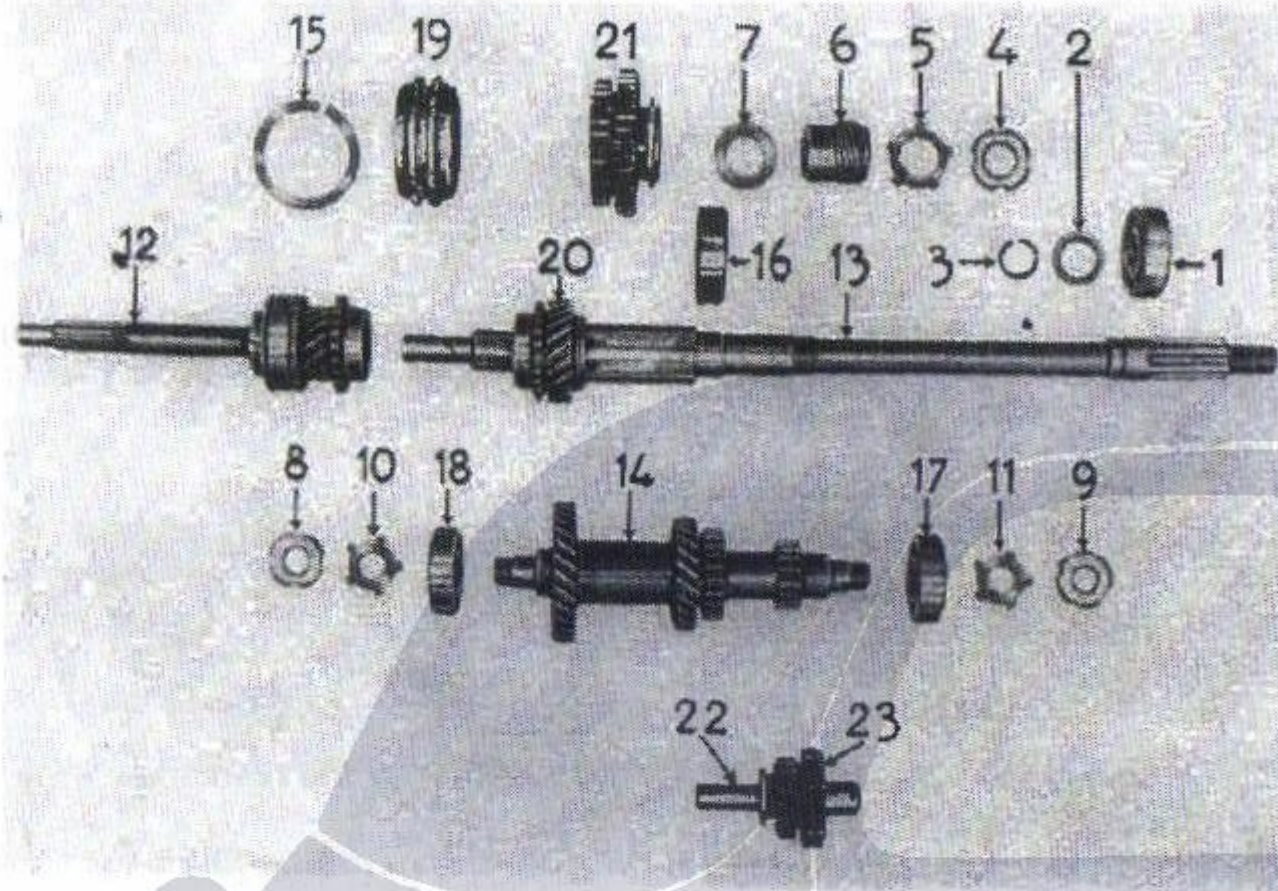

Fig. 64. - Shafts and gears in the gearbox.
Pull out the primary shaft rear ball bearing (1, Fig. 64); the washer (2) and the spring ring (3).
Unscrew by means of the wrench A. 8067 (Fig. 66) the lock rings (8 & 9, Fig. 64) of the secondary shaft, straightening out the lock plates 10 & 11, Fig. 64).
Pull out the rear ball bearings (16 & 17, Fig. 64) of the primary and secondary shaft.